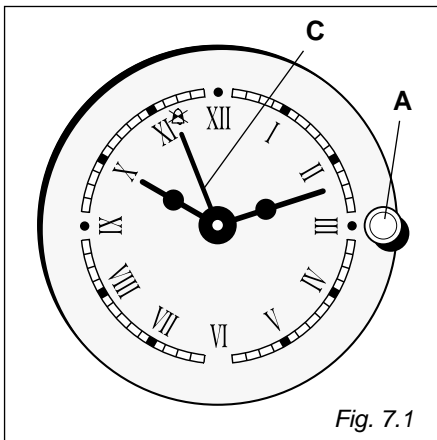

Fig. 7.1
(Fig. 7.1)
To set the minute counter, rotate the small knob (A) clockwise or anticlockwise (without pressing it) until the hand (C) coincides with the required time (max 55 minutes) (Fig. 7.1).